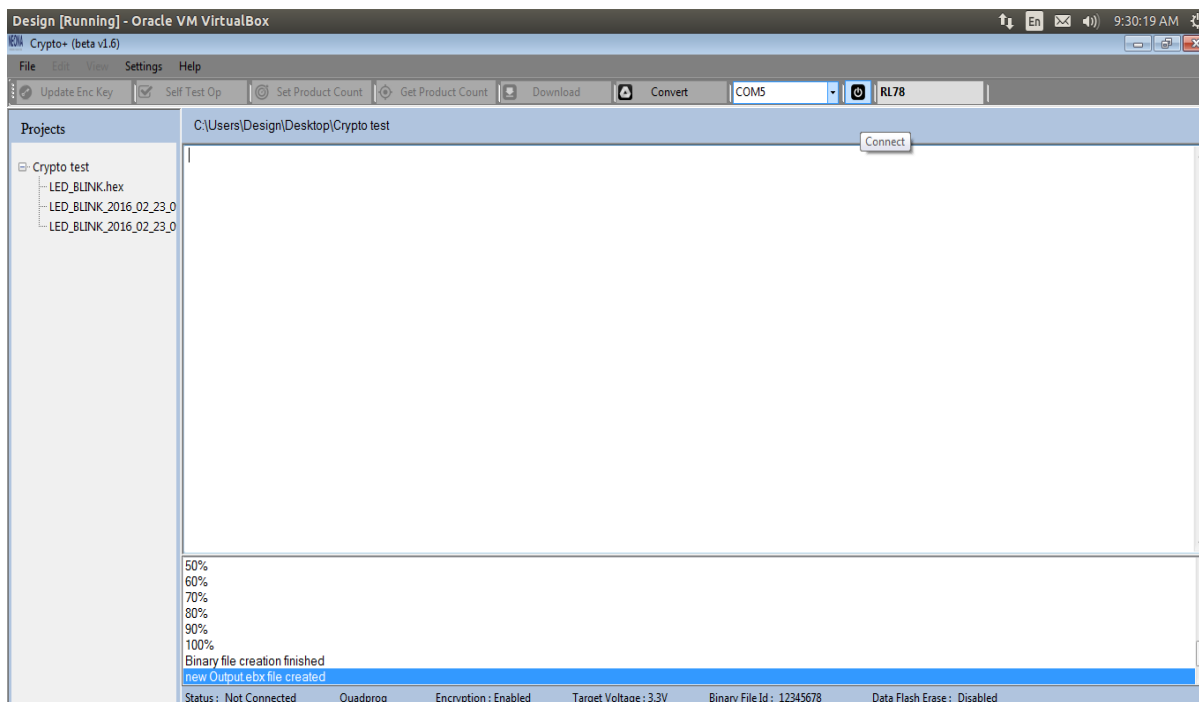

Figure 2.30
STEP 2: Click on Connect  button as shown in figure 2.30.